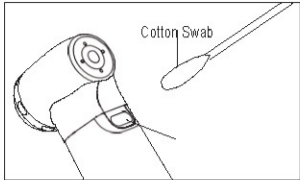

Fig. 12
- Wipe it and clean the cellular optic glass rod exit hole which locates at the neck of turbine handpiece. Wipe it and clean with an alcohol immersed cotton swab (Fig.12) to remove all debris and oil to extend the effect of the light guide.